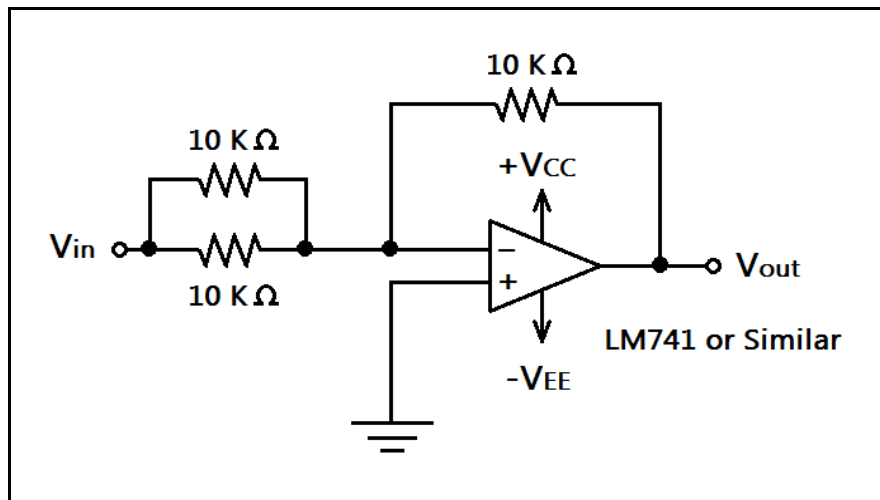
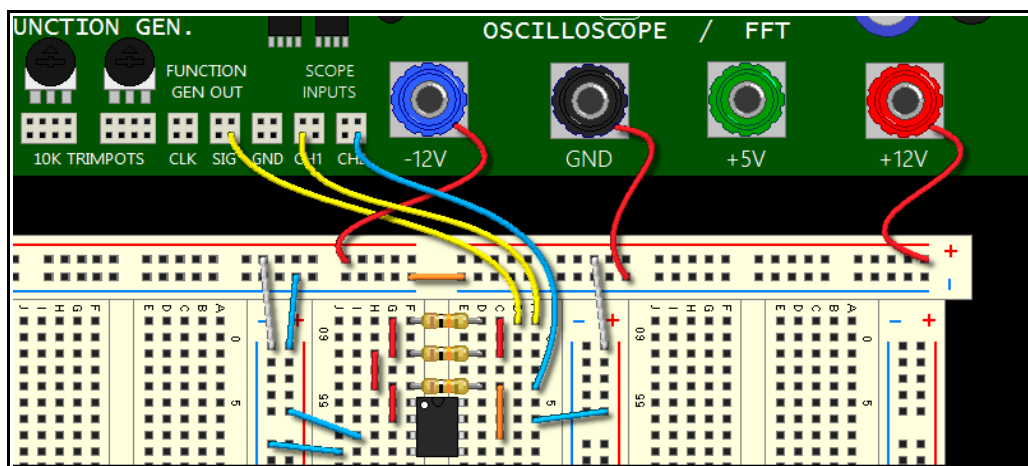

Figure 12: An inverting amplifier with a gain of two.
Figure 13: Inverting amplifier pictorial diagram.
3. Remove the power and dismantle the circuit. We will now build our first amplifier, the inverting op amp. We will use the function generator and the oscilloscope to try some experiments. Wire the schematic shown in **Figure 12**. Use the pictorial diagram in **Figure 13** as a guide.
5. Now disconnect the feedback resistor (the 10 K Ω resistor closest to the op amp in **Figure 13**.) What happens to the output waveform? By removing the feedback resistor, the gain of the circuit goes to about one million. This circuit is now nothing more than a comparator with a series input resistor.